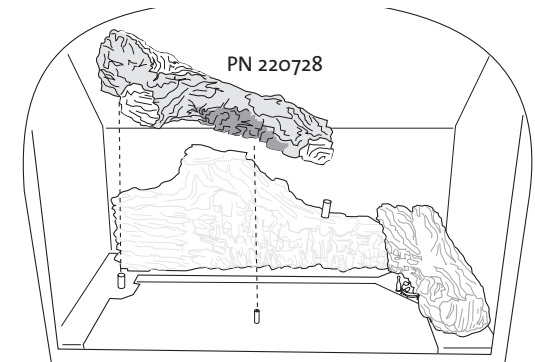

Figure 12. Install left log.
3. Place the left log on the pegs as in fig. 12.